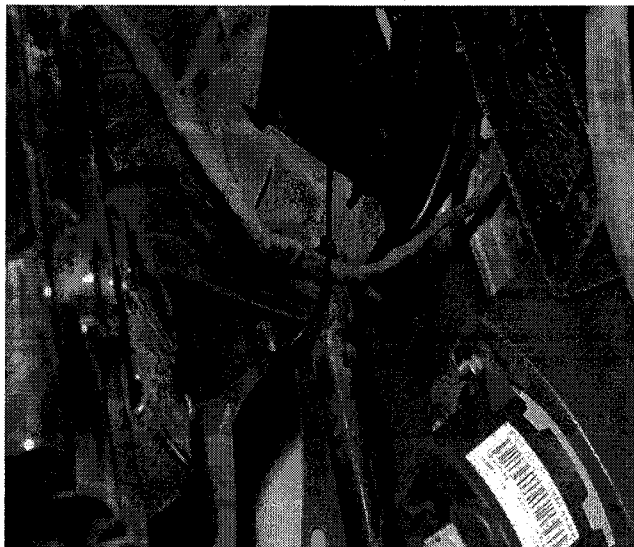
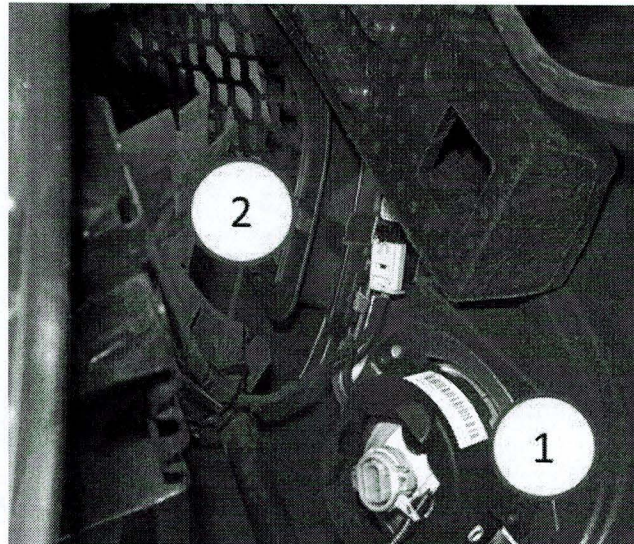

Fig. 15 Zip Tie Clip Location
Fig. 16 Sensor Connector
24. Prior to installing the front fascia, secure the jumper harnesses to the frame using two zip ties as shown into the picture(Fig. 15) and connect the jumpers 4-pin connectors to the left and right sensors previously installed (Fig. 16).